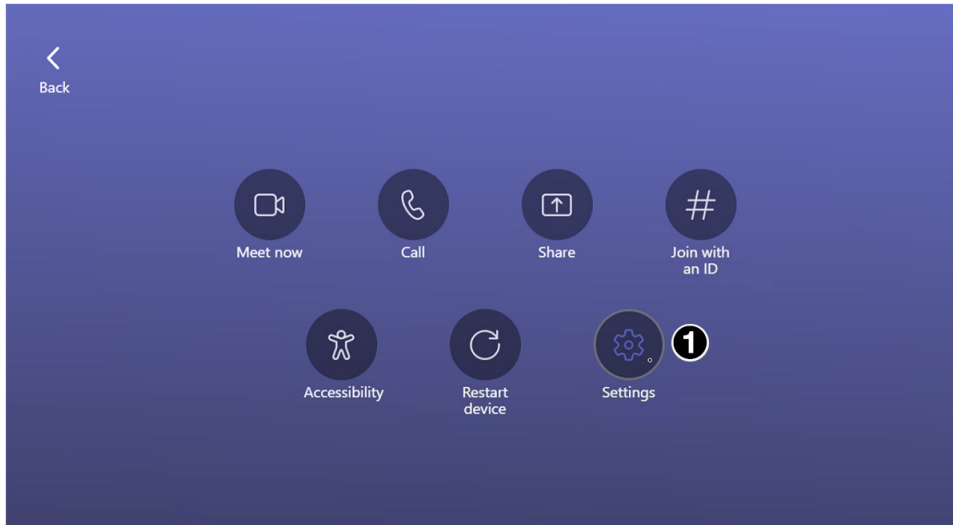

Figure 39. Microsoft Teams Rooms Setup
Select **Settings** (see figure 39, ❶) in the Microsoft Teams Rooms interface.